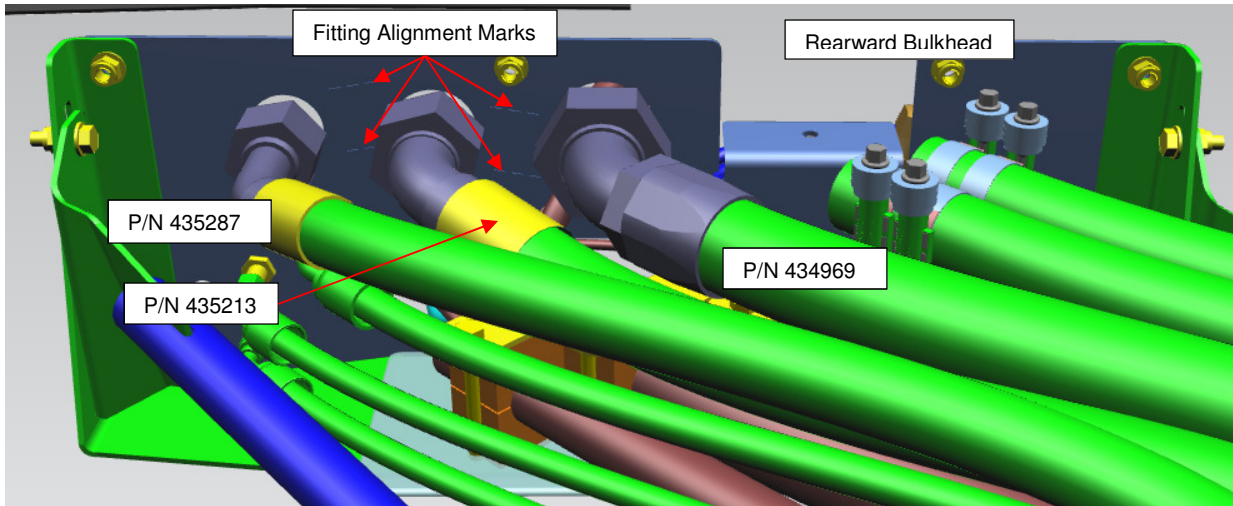

Figure 4: A/C Hoses & Alignment Marks at Rearward Bulkhead.
11. At the rearward bulkhead, reconnect the hoses to their respective connection points. Note that there are alignment marks on the bulkhead for orienting hose P/N 435213 & P/N 435287. Figure 4.